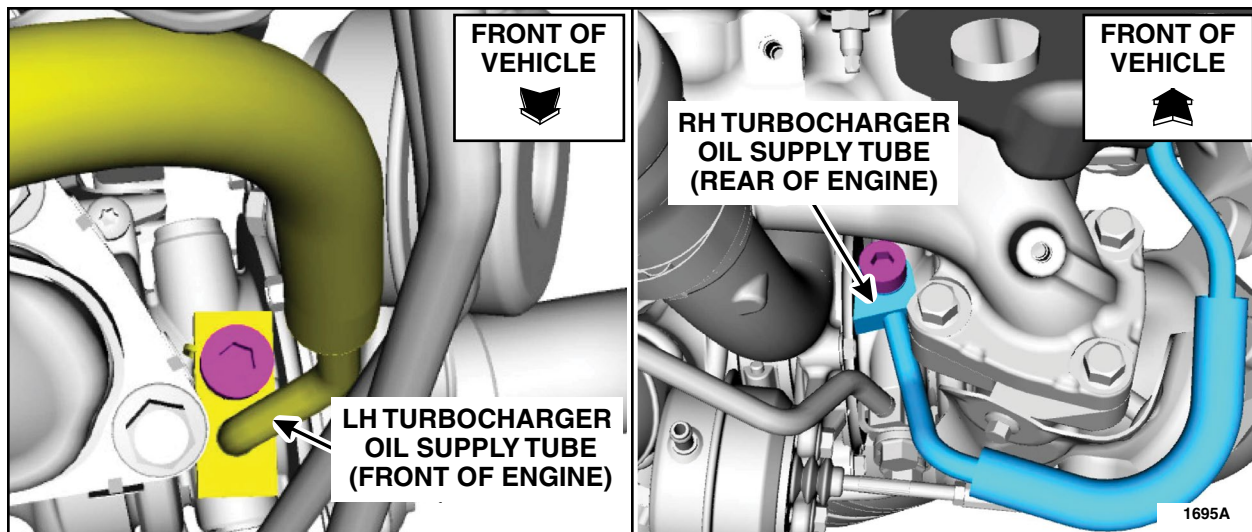

FIGURE 1
3. Run the engine for 15 minutes. Stop the engine and inspect the RH and LH turbocharger oil supply tubes for leaks using the 12 Volt Master UV Diagnostic Inspection Kit 164-R0756 or equivalent (Leak Detector). A clear bright yellow or orange area will identify the leak. See Figure 1.